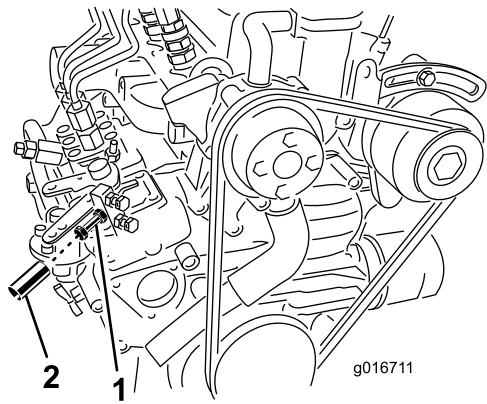

Figure 4
5. Slide an aluminum tube over the throttle-adjustment screw and jam nut (Figure 4) and crimp it down over the screw so that the screw cannot be adjusted again.
3. Using a tachometer and the throttle-adjustment screw on the engine (Figure 4), set the engine speed to 3,200 rpm maximum, then tighten the jam nut on the adjusting screw.